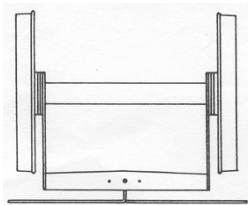

Figure 2
Step 7. Re-fit the axle. Washers are supplied (on the etch) to take up excessive side-play - try to use an equal number on each side. Replace the wheel and adjust the retaining tabs to achieve the right balance of rocking motion and 'slop'; Figure 2. A little oil on the inside bearings will also help.